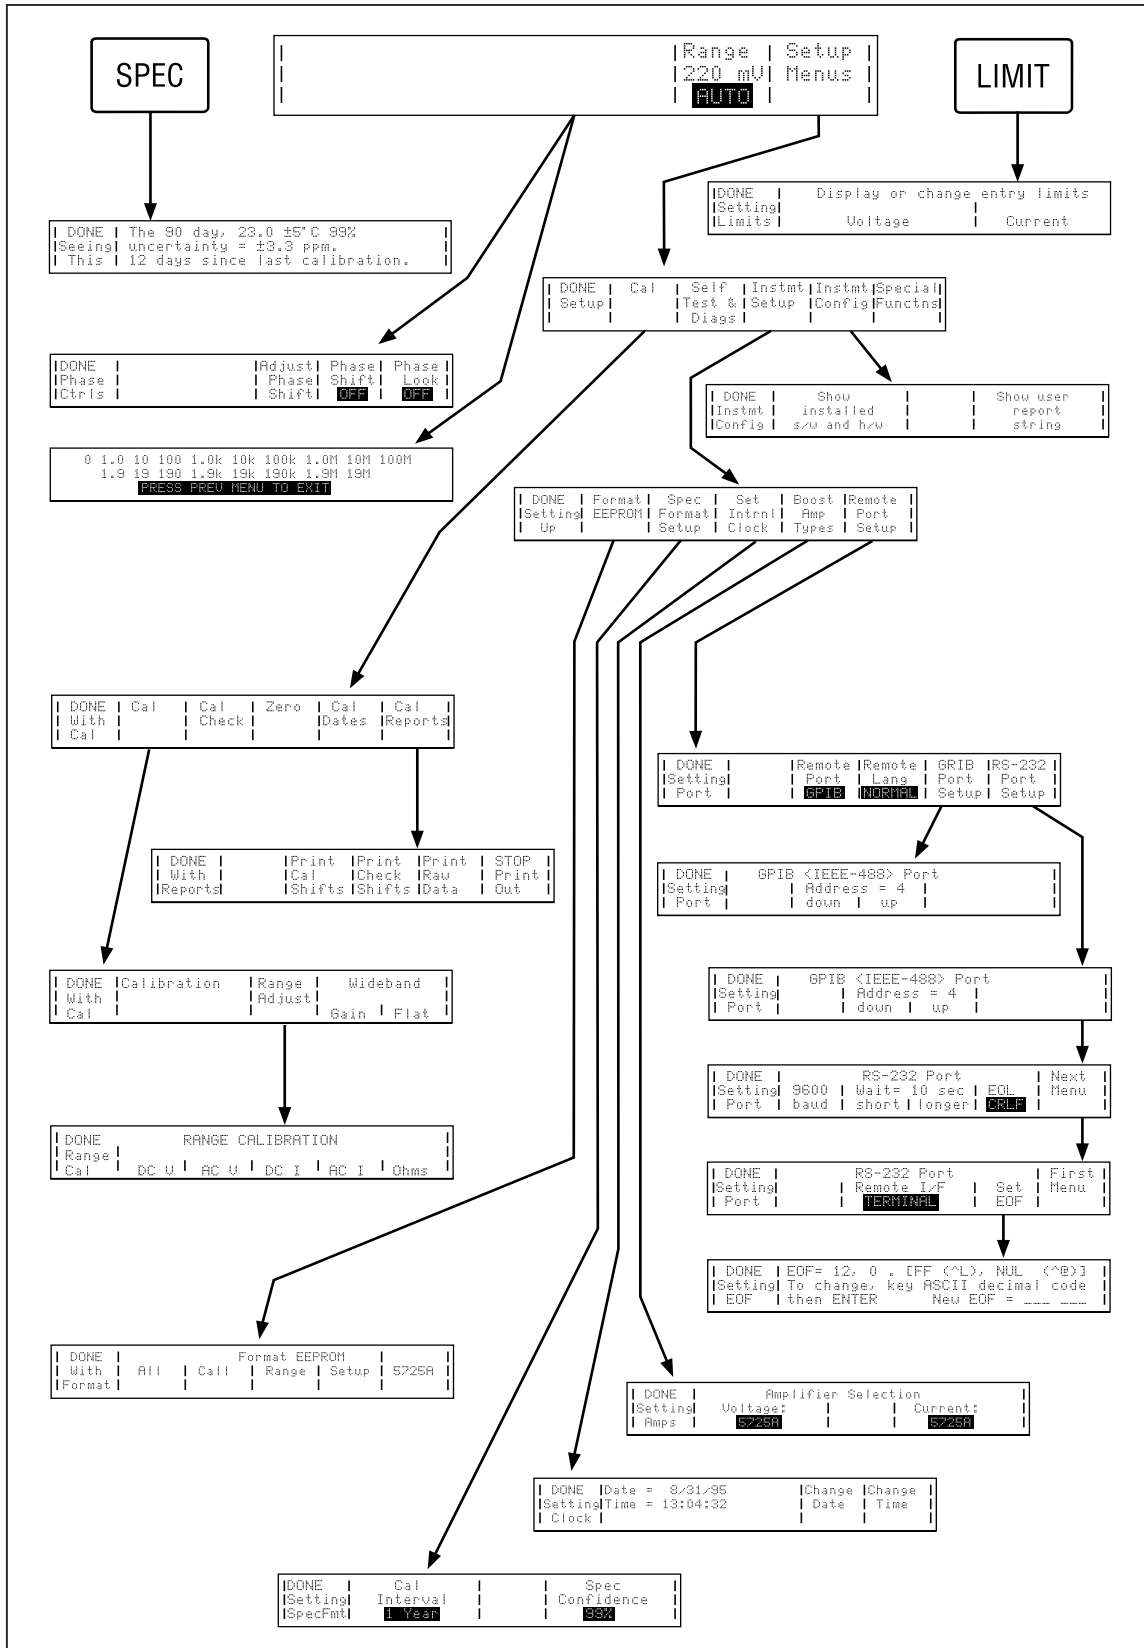

Figure 3-3. Softkey Menu Tree
<p>② Control Display</p>	<p>An alphanumeric vacuum-fluorescent display that shows data entries, UUT error adjustments, menus, and other prompts and messages. Each menu contains a set of softkey labels that identify the functions of the softkeys directly below them. The changing menus provide access to many different functions through the five softkeys plus the  key. (See Figure 3-3, Softkey Menu Tree.)</p>
<p>9</p> <p>Softkeys</p>	<p>The functions of the five unlabeled softkeys are identified by labels on the Control Display directly above each key. The functions change during operation so that many different functions are accessible through these keys. A group of softkey labels is called a menu. A group of interconnected menus is called a menu tree. Figure 3-3 shows the menu tree for the calibrator.</p>
The functions of the six softkeys described under “Front Panel Features”, are represented by menus containing labels displayed directly above each key. These functions change whenever you access a new menu. Figure 3-3 shows the hierarchy of all the menus available for the calibrator.